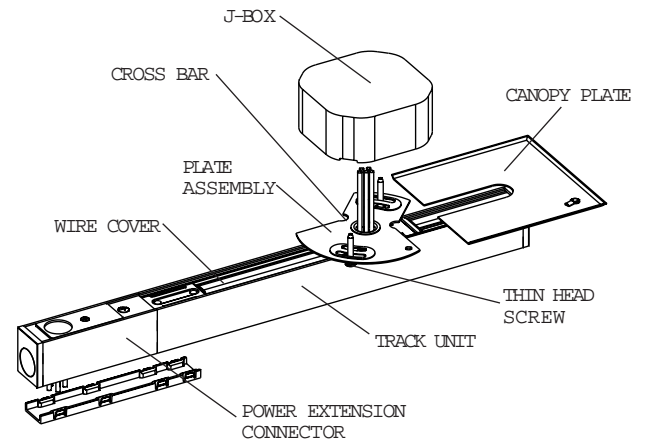

FIG. 7
14. Secure the PLATE ASSEMBLY to the J-BOX using the THIN HEAD SCREWS. (Fig. 7)
15. Attach the GROUND WIRE on the CANOPY PLATE to the GROUND LEAD or GROUND TERMINAL in the J-BOX. (Fig. 7)